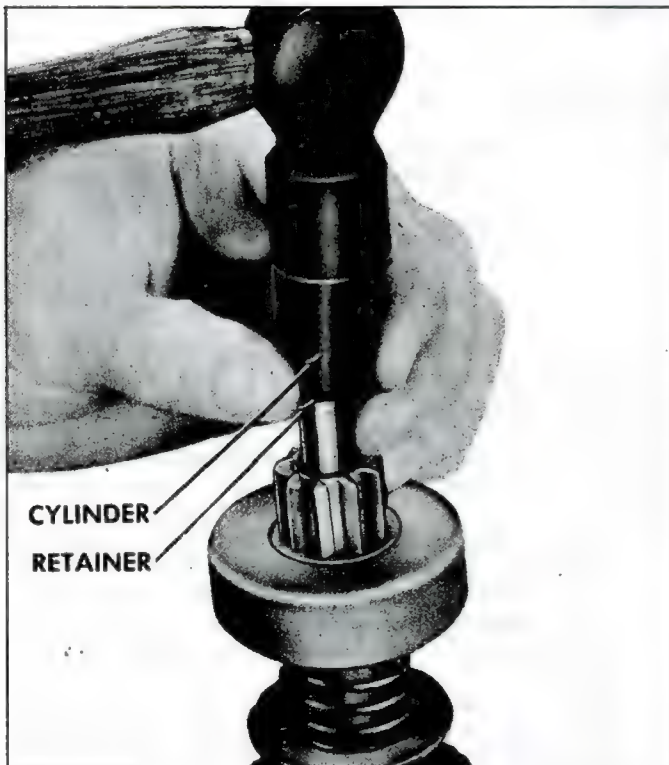

Fig. 4s—Driving Retainer off Snap Ring
- b. Slide a standard half-inch pipe coupling or other metal cylinder of suitable size (an old pinion of suitable size can be used if available) onto shaft so end of coupling or cylinder butts against edge of retainer (fig. 4s). Tap end of coupling with hammer, driving retainer towards armature end of snap ring.